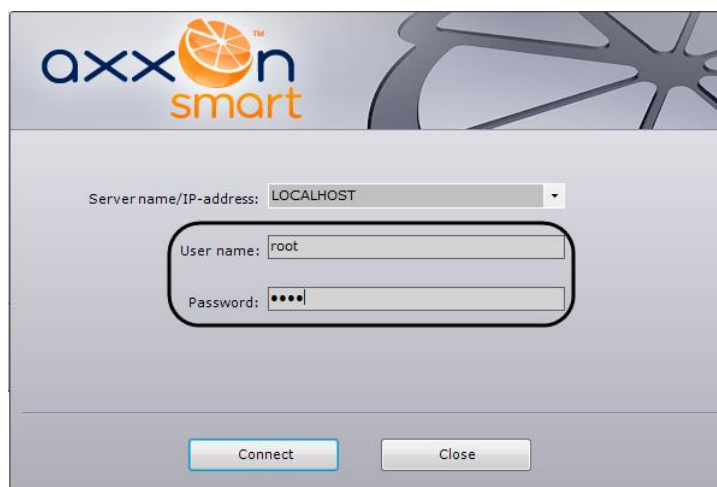

Fig. 5.3—1 Switching users quickly
2. When the authorization window appears, enter the user name under which you need to log in and the corresponding password and click **Connect** (see Fig. 5.3—1).